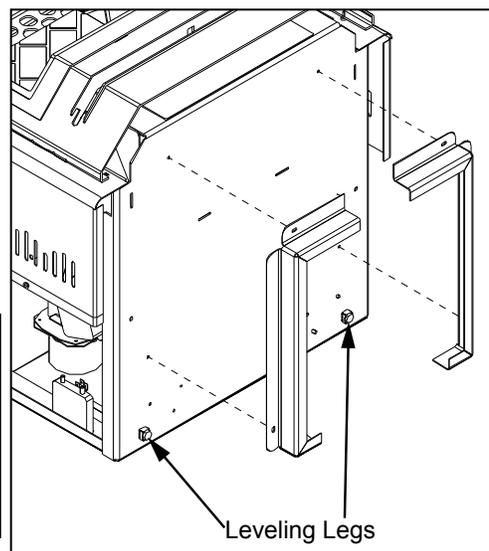

Figure 13: Installing Pedestal.
There are two parts to the Meridian insert pedestal and they can be found inside the hopper. Place unit on its back. Two (2) hex head screws are used on each side of the pedestal (refer to Figure 13). Using a  $\frac{5}{16}$ " wrench or socket attach the pedestal to the bottom of the unit.